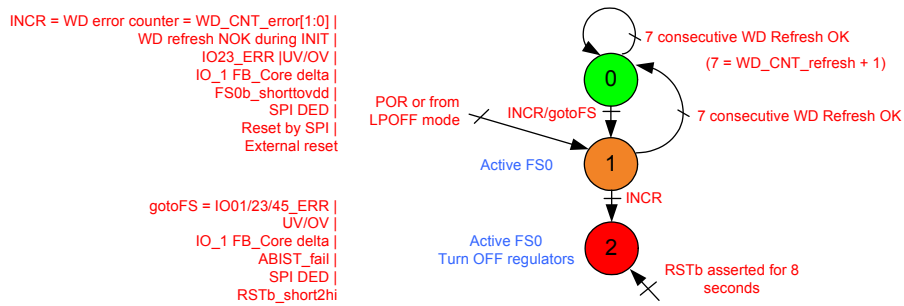

Figure 17. RSTB error counter(RSTB_err_FS = 1)
- RSTB_err_FS = 1 / Intermediate = 1; Final = 2 (Figure 17). When reset error counter reaches 2, the device goes into deep reset and fails.